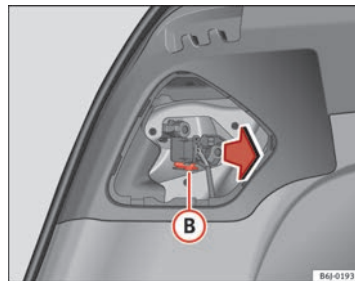

Fig. 170 Removing the bulb holder
- Remove the bulb holder by pressing the clip **B** ⇒ fig. 170 and pulling outwards.